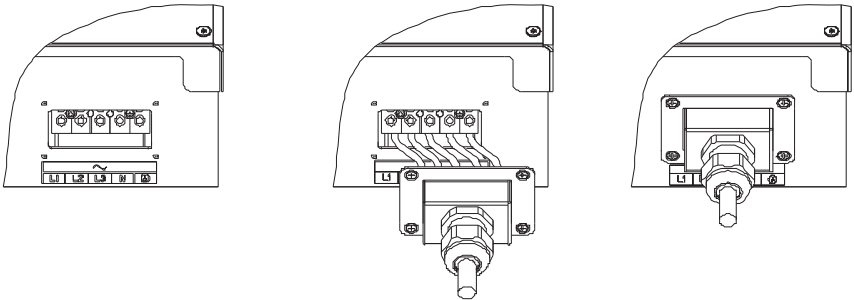

Fig 5.7
2. Connect five standard cables into relevant terminals. The five cables should be put through the protection shell, as Fig. 5.7.